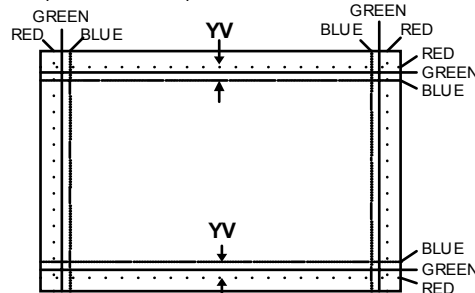

Fig. 4
2. Move the deflection yoke left to right to overlap the lines in the periphery, and match the Y_v(VR1). (As shown in Fig. 4)